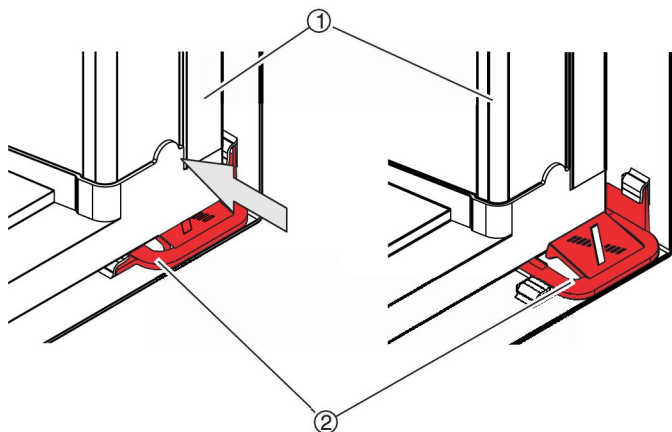

Fig. 23: Filter element locks in place
7. ► Push the new filter element (Fig. 23/1) in and over the quick release fasteners (Fig. 23/2) until it locks into place.